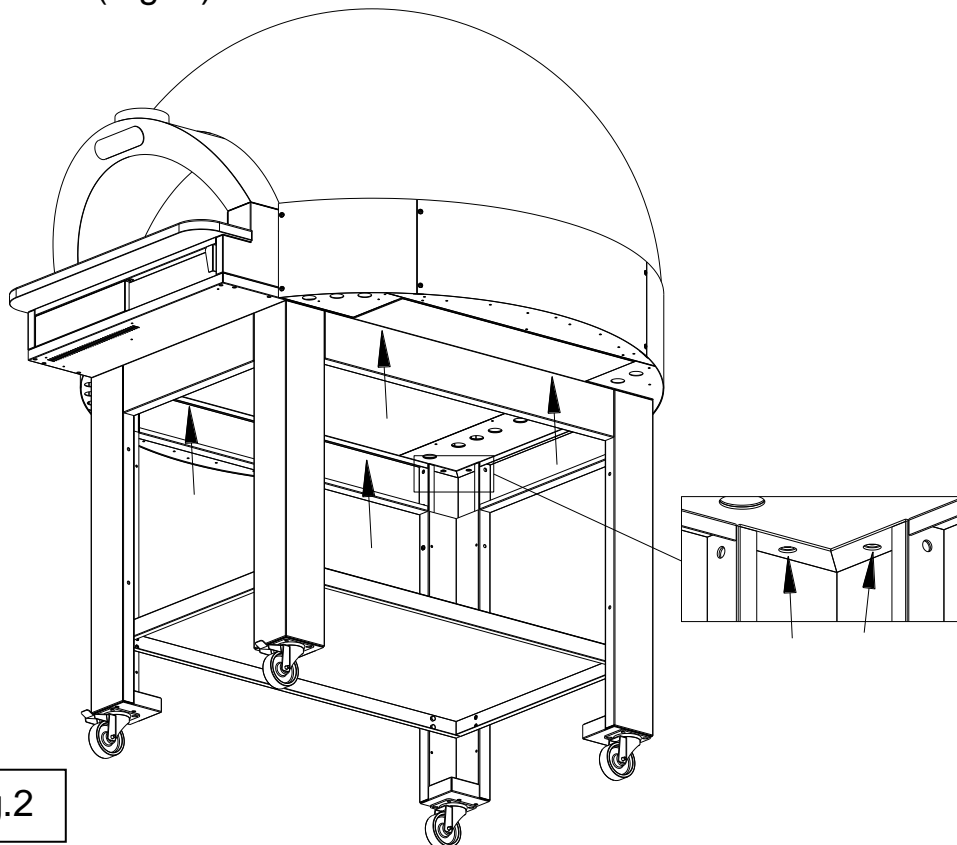

Fig.2
- 2- Separate the module from the base by unscrewing the fixing screws at the bottom (Fig. 2).